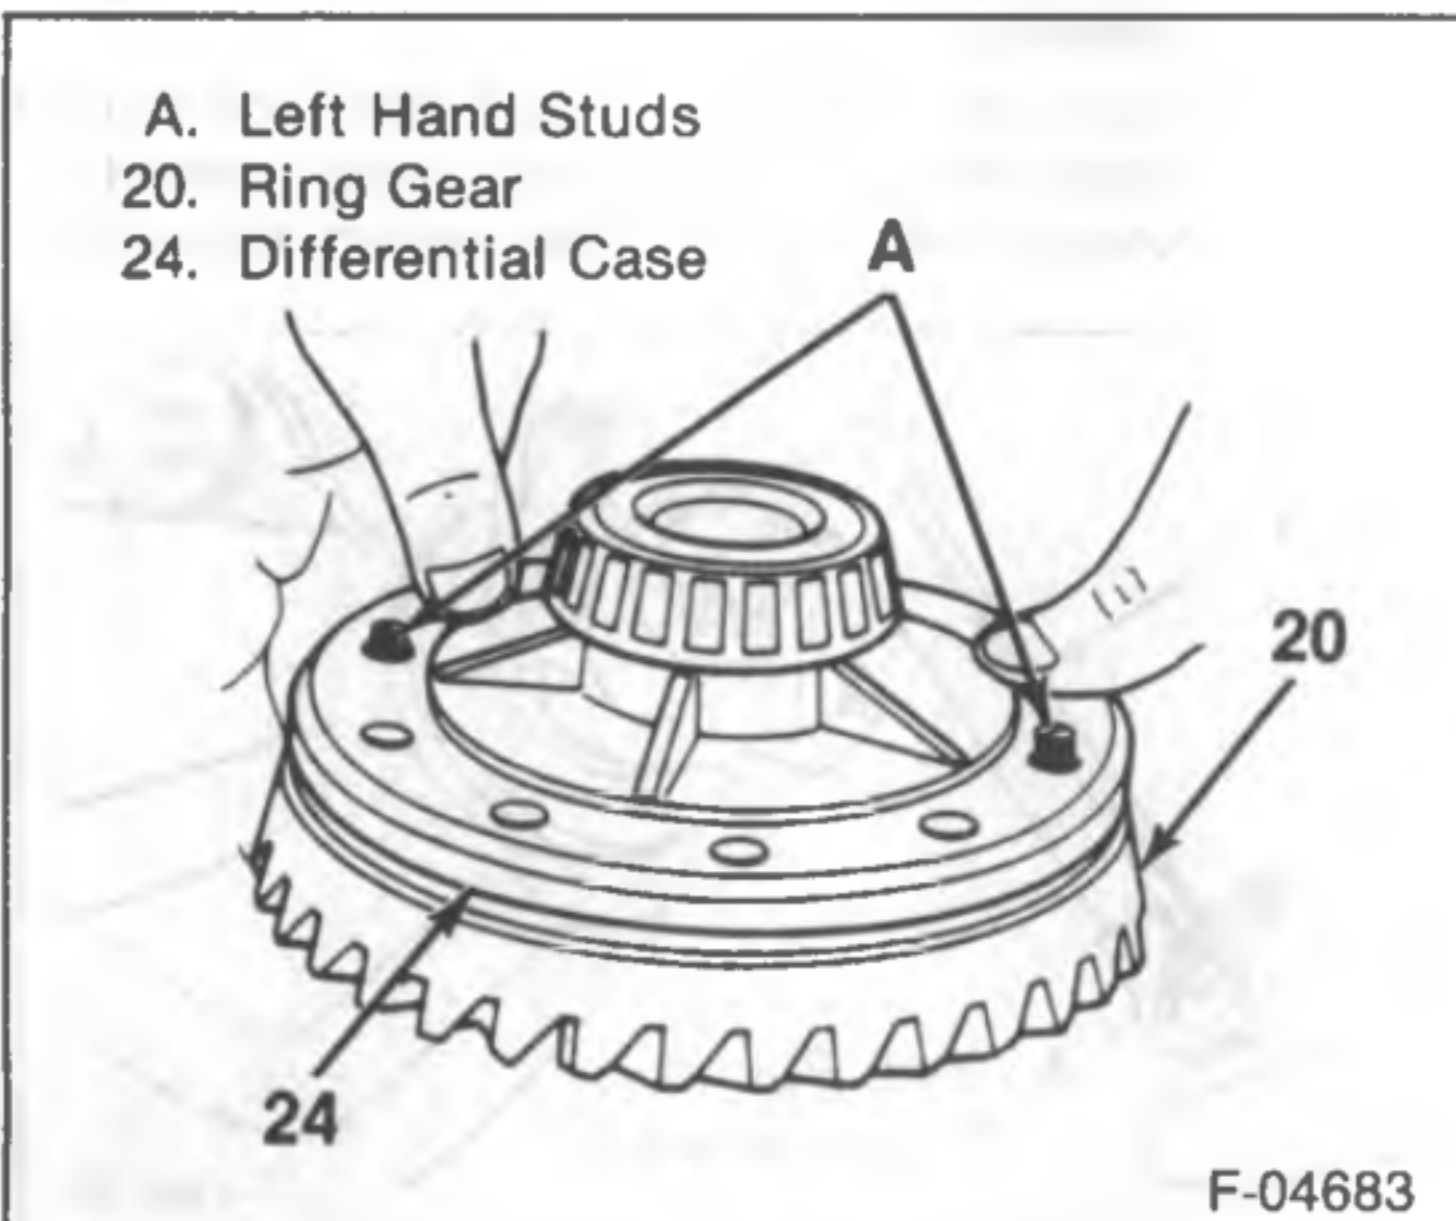
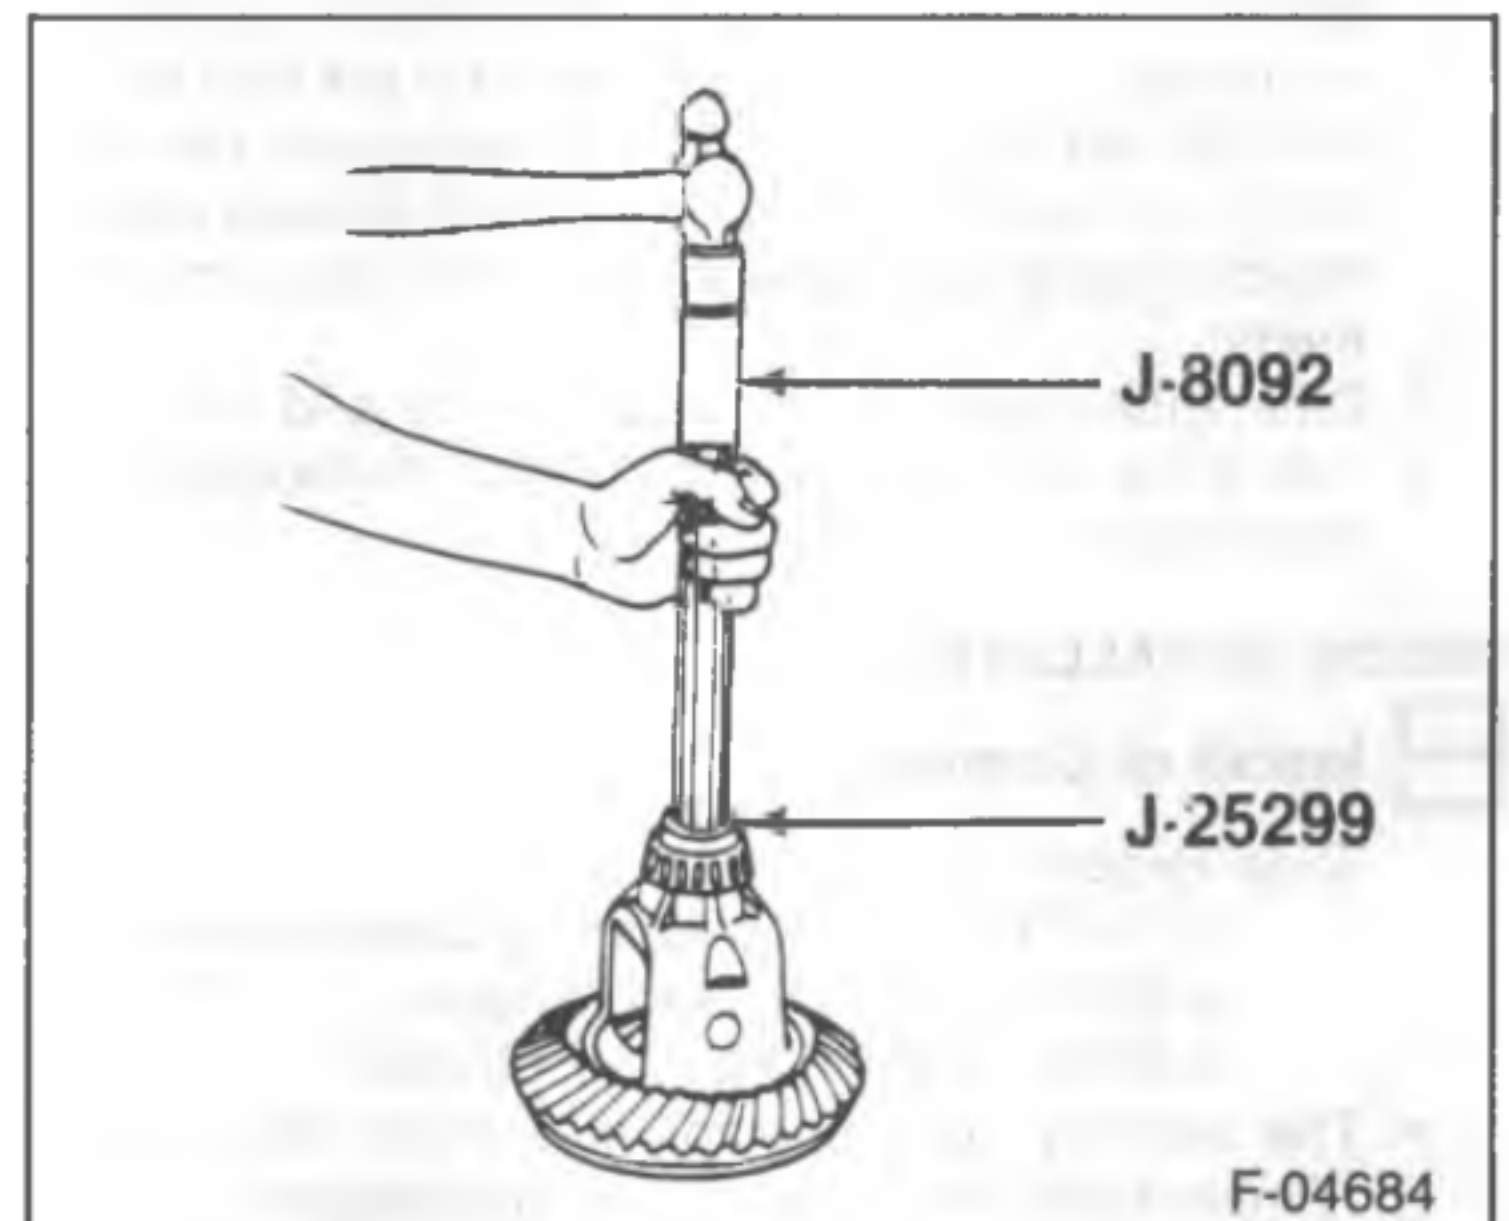

Figure 11—Aligning the Ring Gear Studs
Figure 12—Installing the Side Bearing
3. Pinion gears (28) to the differential without the thrust washers (27).
4. Pinion thrust washers (27).
7. Ring gear (20) to the differential case (24) (figure 11).
8. New ring gear bolts (25).
9. Differential side bearings (22) using J 25299, J 8092, and J 8107-2 (figure 12).
10. Differential case (24) to the axle housing. Refer to "Side Bearing Pre-Load Adjustment" in this section.